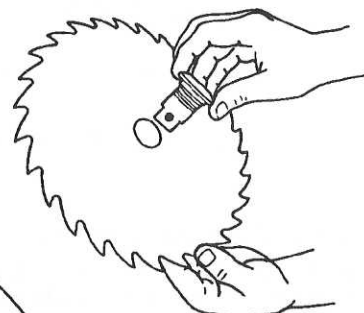

Fig. B-59b
**b.** Hold the blade with the teeth pointing toward you, as shown in Fig. B-59b, then insert the arbor through the hole. Replace the nut and finger tighten it, as in Fig. B-59c.